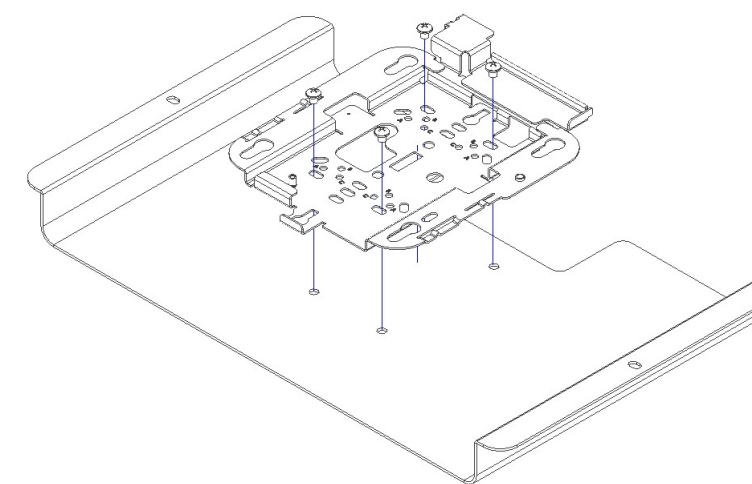

Figure 2
Step 5 - Attach the *Cisco mounting plate* to the *Oberon access point mounting bracket* using the four (4) #8-32 screws provided. The *Cisco mounting plate* should be aligned with the *Oberon access point mounting bracket* so that the cable entry on the *Cisco mounting plate* is positioned toward the cutout of the *Oberon access point mounting bracket* (Ref. figure 2).